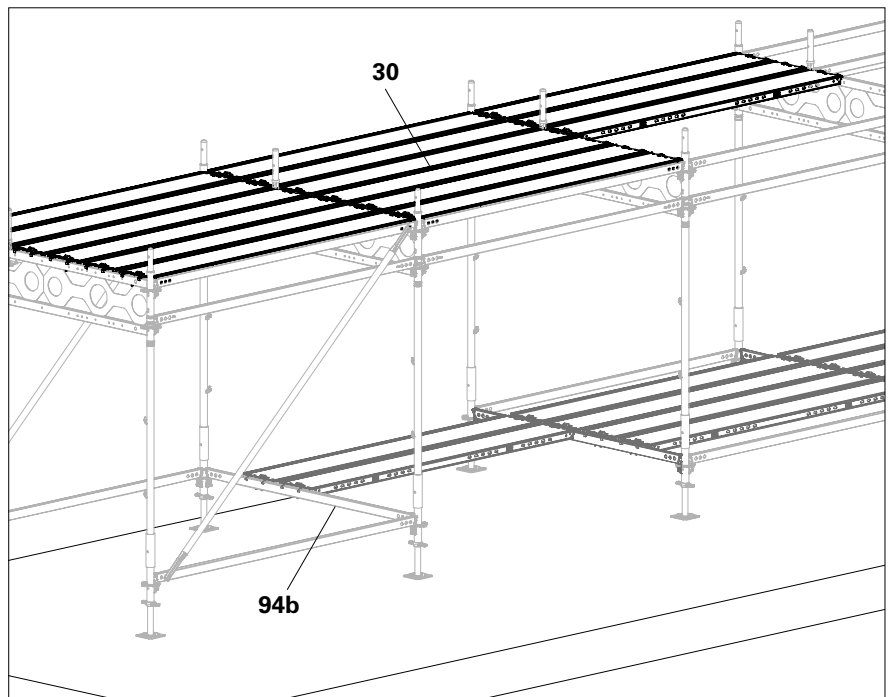

Fig. D6.07
5. Place Steel Decks EDS (30) in the Multi Girder ELM; to do so, gradually start to use the auxiliary decks no longer required in the base level.
6. Remove the Horizontal Ledgers UH-2 (94b), which served as a support for the auxiliary decks, on the base level. → The pavement gantry is now installed. (Fig. D6.07)